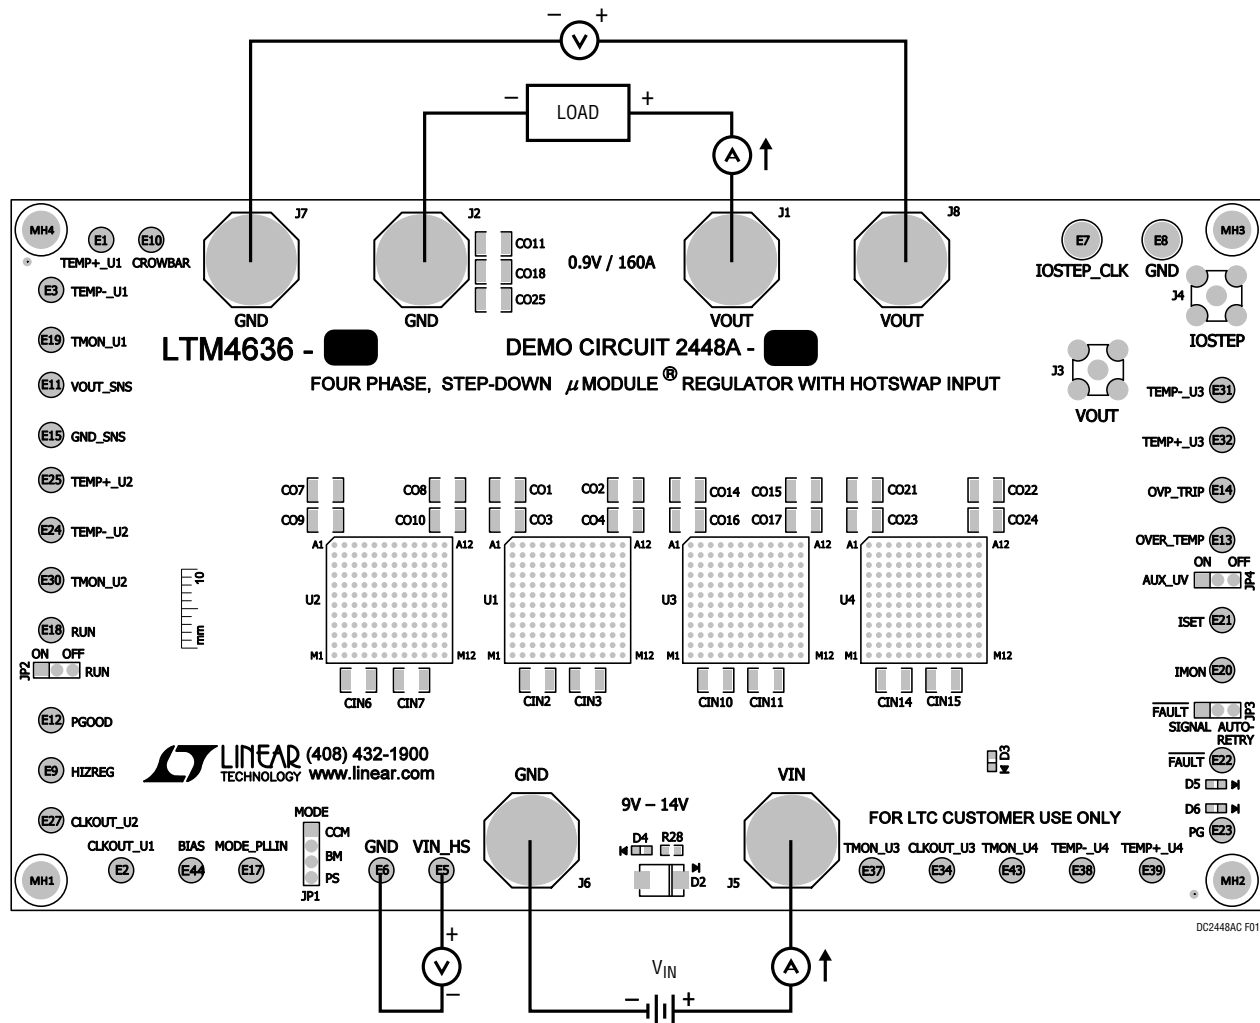

Figure 1. Measurement Setup of DC2448A-C
Demonstration circuit DC2448A-C is an easy way to evaluate the performance of PolyPhase operation of the LTM4636EY. Due to the high input/output current, the user should select the proper input supply/load/cable which can sustain the full load operation. Please refer to Figure 1 for proper measurement equipment setup and follow the procedure below:
2. With power off, connect the input power supply, load and meters as shown in Figure 1. Preset the load to 0A and  $V_{\text{IN}}$  supply to 12V.